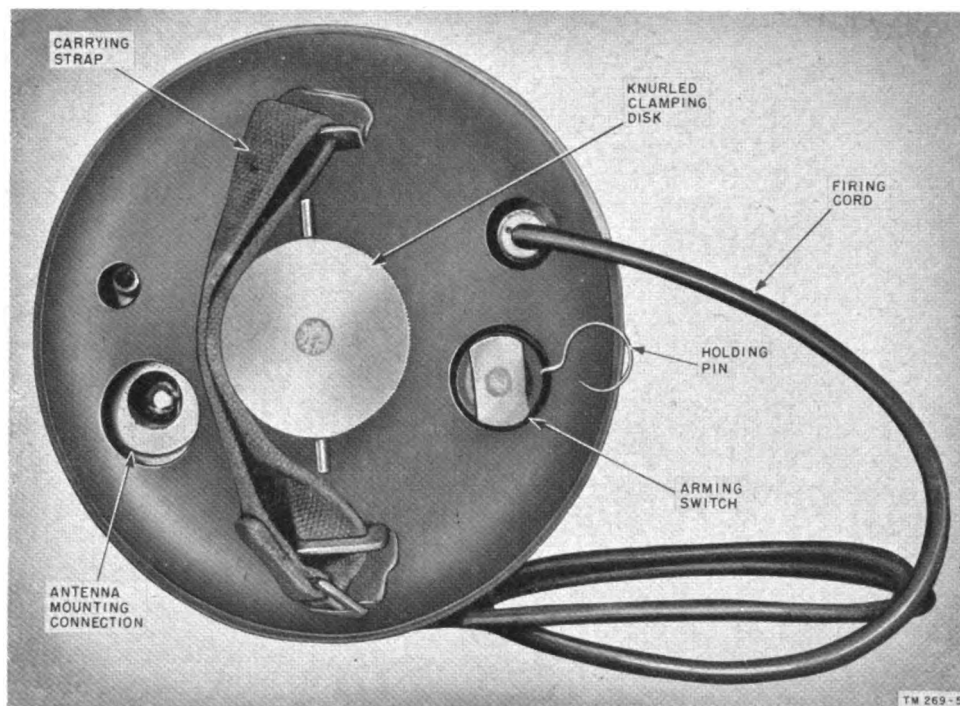

Figure 8. Receiver, top view.
b. PHYSICAL FEATURES. Radio Set AN/TRR-2 (fig. 8) is built upon a metal frame which is designed to slide into a steel cylindrical container. A rubber gasket is inserted between the cover of the unit and the container, and it is pos-
- (1) Loosen the knurled clamping disk on top of the receiver container cover (fig. 8). On equipments bearing serial num-